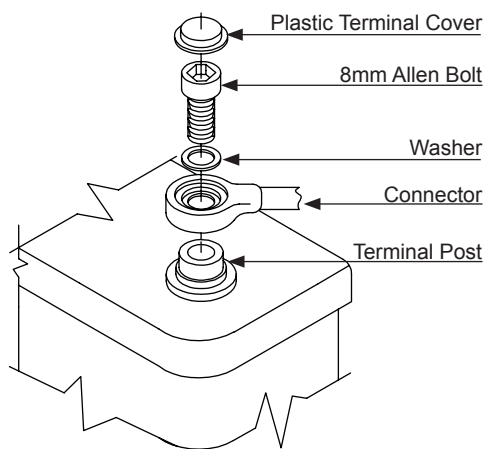

Fig. 8-2, Battery Connector Detail
9. Connect the cells using the flexible connectors according to color and polarity (red=positive; blue=negative), as shown in Figures 8-2 and 8-3. Torque all connections to 130 in/lb. (15N/m).